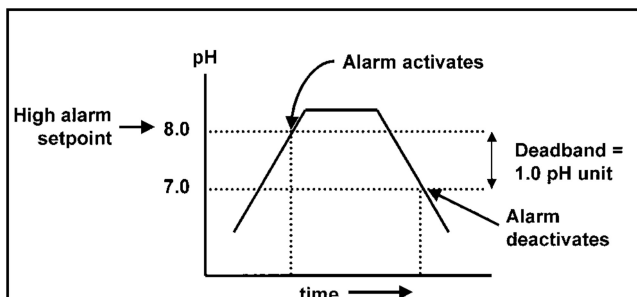

FIGURE 5-2. High Alarm Logic
3. **ALARM LOGIC, SETPOINTS, AND DEADBANDS.** See Figures 5-2 and 5-3.